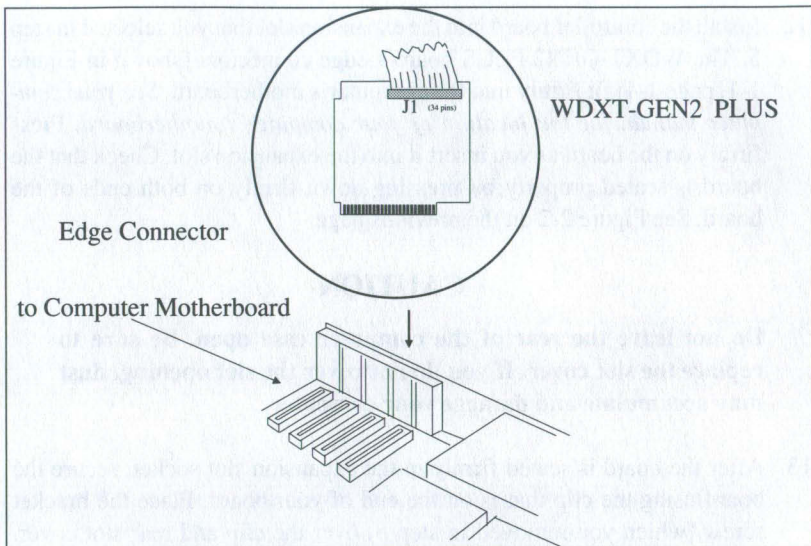

Figure 2-2. INSTALLING WDXT-GEN2 PLUS BOARD
12. Install the controller board into the expansion slot that you selected in step 5. The WDXT-GEN2 PLUS board's edge connectors (shown in Figure 1-1, page 1-4) fit firmly into the computer's motherboard. *See your computer manual for the location of your computer's motherboard.* Press firmly on the board as you insert it into the expansion slot. Check that the board is seated properly by pressing down firmly on both ends of the board. See Figure 2-2 on the previous page.